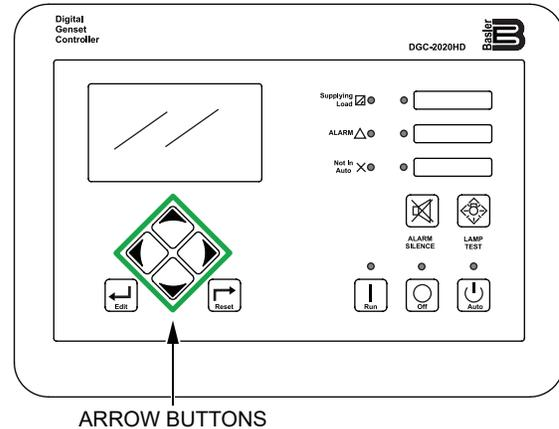

Figure 87. Digital Controller (Arrow Buttons)
2. Use the **Arrow buttons** (Figure 87) to navigate to the **Escape Mode Request** menu: (Settings->Communication->CAN Bus2(ECU) Setup->ECU Setup->General Settings->Escape Mode Request).
2. Use the **Arrow buttons** (Figure 87) to navigate to the **J1939 ECU menu** (Metering->J1939 ECU). This will allow the operator to perform the following diagnostics: